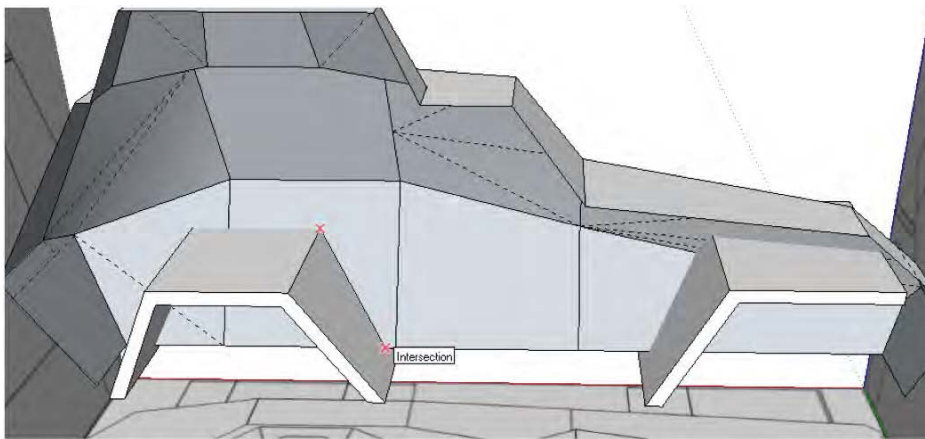

Figure 8-25. Drawing the lines to connect the fender to the chassis of the car
3. Use the Line tool, and trace the intersection of the fender with the body of the car (Figure 8-25). Also turn on hidden geometry. Since there are multiple surfaces that define the body of the car, it's important that you draw lines on those surfaces and not in a tangent.